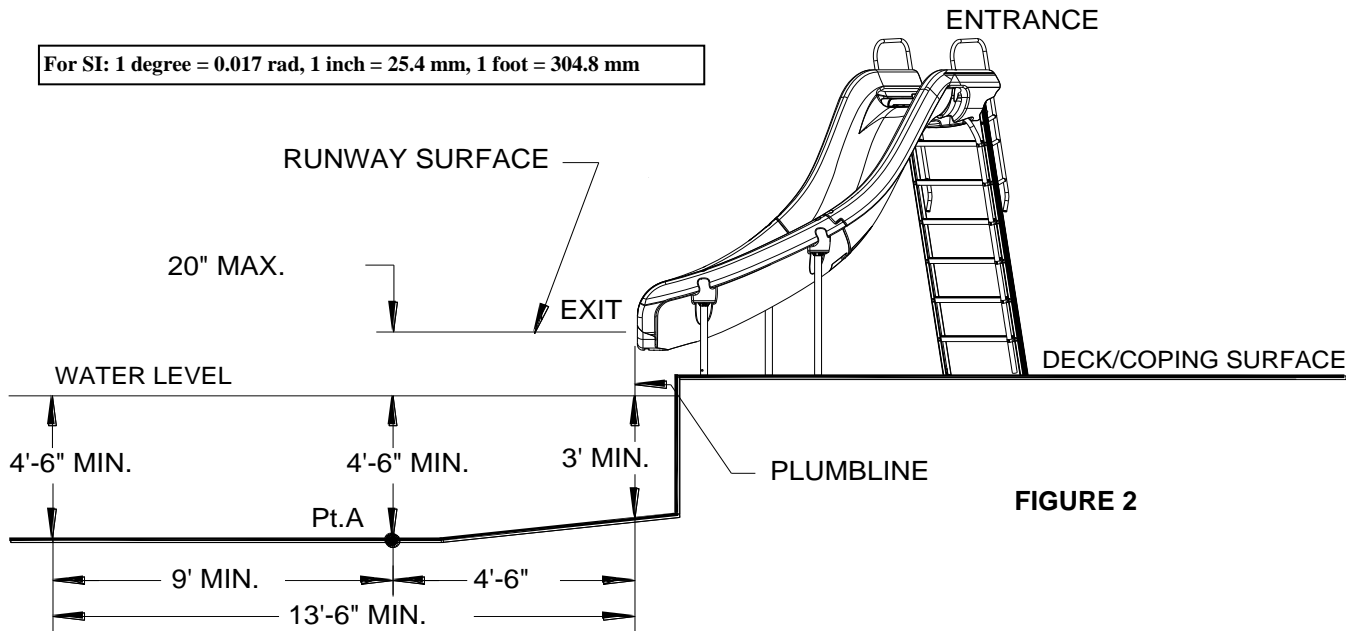

FIGURE 2
5. Observe the position of the exit of the slide as shown in Figures 2, 3 and 5 on pages 6 and 7.
1. The critical dimensions for placement of the **Rogue2** slide are as shown in Figures 2 and 3.
- A. The slide exit runway surface shall not exceed twenty inches (20") (508mm) above the water surface as shown in Figure 2.
- C. The minimum depth of water below the exit lip of the slide shall be three feet (3') (914 mm) and increases to four feet six inches (4'-6") (1371 mm) at Pt. A, which is a distance of four feet six inches (4'-6") (1371 mm) from the exit lip of the slide as shown in Figure 2.
- D. A minimum depth of four feet six inches (4'-6") (1371 mm) shall be maintained at a distance of nine feet (9') (2743 mm) along the extended centerline of the slide from Pt. A. as shown in Figure 2.